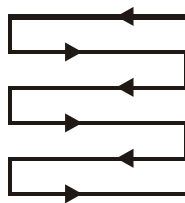

Fig.22
4. Mow in slight overlapping rows. The most effective pattern for mowing lawns is straight lines along one of the sides. This will keep the rows even and ensures that all the lawn is cut without missing any spots (Fig. 22).